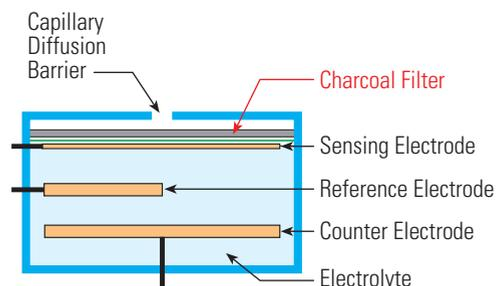

Fig. 5 Filtering with Activated Charcoal
- D. *Filter*:** Sometimes a *scrubber* filter is installed in front of the sensor to filter out unwanted gases. There is a limited selection of filters, each with different degrees of effectiveness. The most commonly used filter medium is activated charcoal, as shown in Figure 5. The activated charcoal filters out most chemicals with the exception of carbon monoxide and hydrogen gases. By properly selecting the filter medium, an elec-